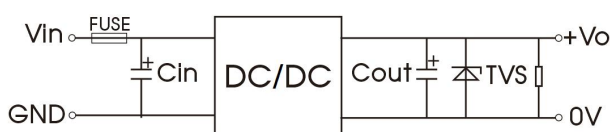

Fig. 1
- (1) We recommended using the recommended circuit shown in Fig.1 during product testing and application, otherwise please ensure that at least a 100μF electrolytic capacitors is connected at the input in order to ensure adequate voltage surge suppression and protection.
- (2) We recommended increasing the value of Cin and pay attention to the unstable input voltage if the product input side is paralleled with motor drive circuit and/or larger energy transient circuits, to ensure the stability of input terminal and avoid repeatedly start-up problems due to input voltage lower than under-voltage protection point.
- (3) We recommended increasing the output capacitance with limited to the capacitive load specification and/or increasing the voltage clamping circuit(such as TVS) if the output terminal is inductive device such as relay or a motor, to ensure adequate voltage surge suppression and protection.
- (4) Input and/or output ripple can be further reduced by appropriately increasing the input & output capacitor values Cin and Cout and/or by selecting capacitors with a low ESR (equivalent series resistance). Also make sure that the capacitance is not exceeding the specified max. capacitive load value of the product.